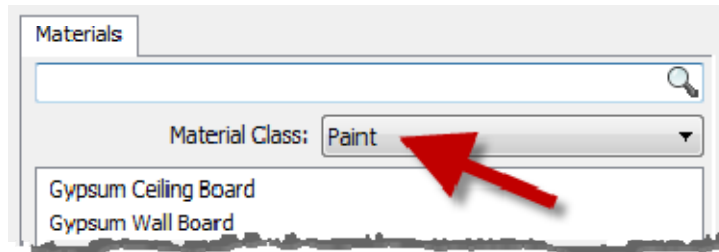

FIGURE 4-3.12 Materials dialog; Material Class filter
35. Set the *Material Class* filter to **Paint** (Figure 4-3.12).
51. Switch the *Material Class* to **Ceramic** (similar to Figure 4-3.12).